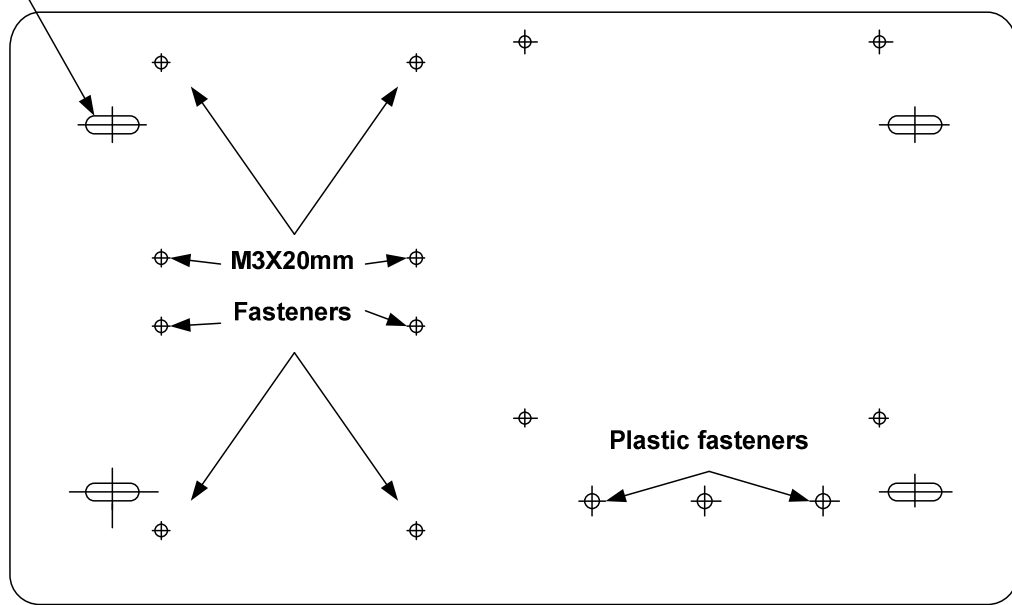

Figure 3.2 – Fasteners and grounding nut location.
- Fix eight M3X20mm fasteners for the two electronic boards at the position indicated in the figure 3.2;
- Insert the three plastic fasteners recovered from the solar charge controller (figure 3.2);
- Remember the position for the grounding nut recovered from the solar charge controller (figure 3.2);